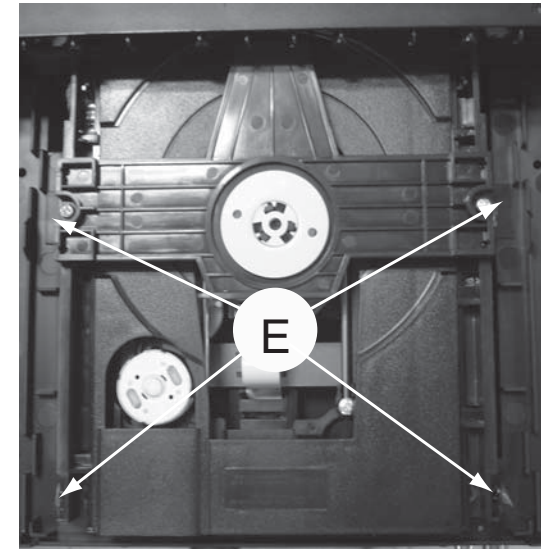

Figure 6
- 1) Loosen 4 screws "E" on the top of DVD Loader as shown in figure 6.